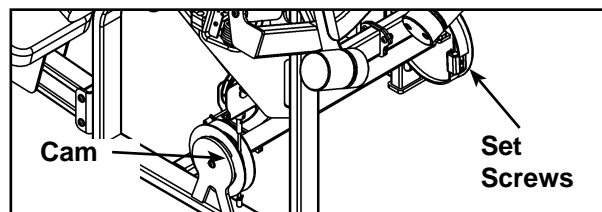

Figure 1
- D. Rotate cam and disconnect weight stack belt from cam (by loosening the two set screws on the belt clamp with a 7/32" Allen wrench). See Figure 1.
- P. Connect the weight stack belt to the belt clamp of cam (removed in step 4D). See Figure 1.